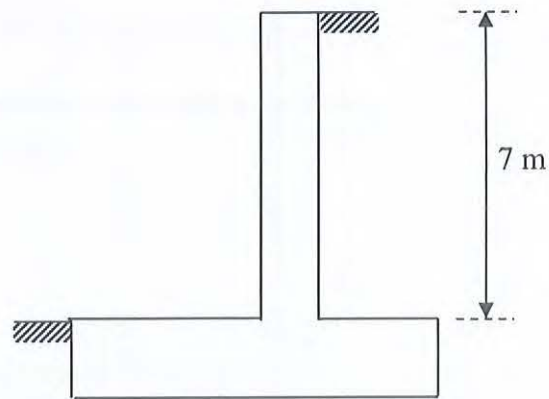

Figure 2. Retaining wall
- b. A cantilever retaining wall of an open underpass is shown in **Figure 2**. The density of soil beside the wall is 1700 kg/m^3 , active soil pressure coefficient is 0.33, soil is saturated with water (void ratio of the soil is 60%). Apply the concept to design the wall with minimum thickness as per requirements of BNBC 2020. Assume required data for design, concrete strength (f_c') could be used as 21 N/mm^2 . [6 Marks]